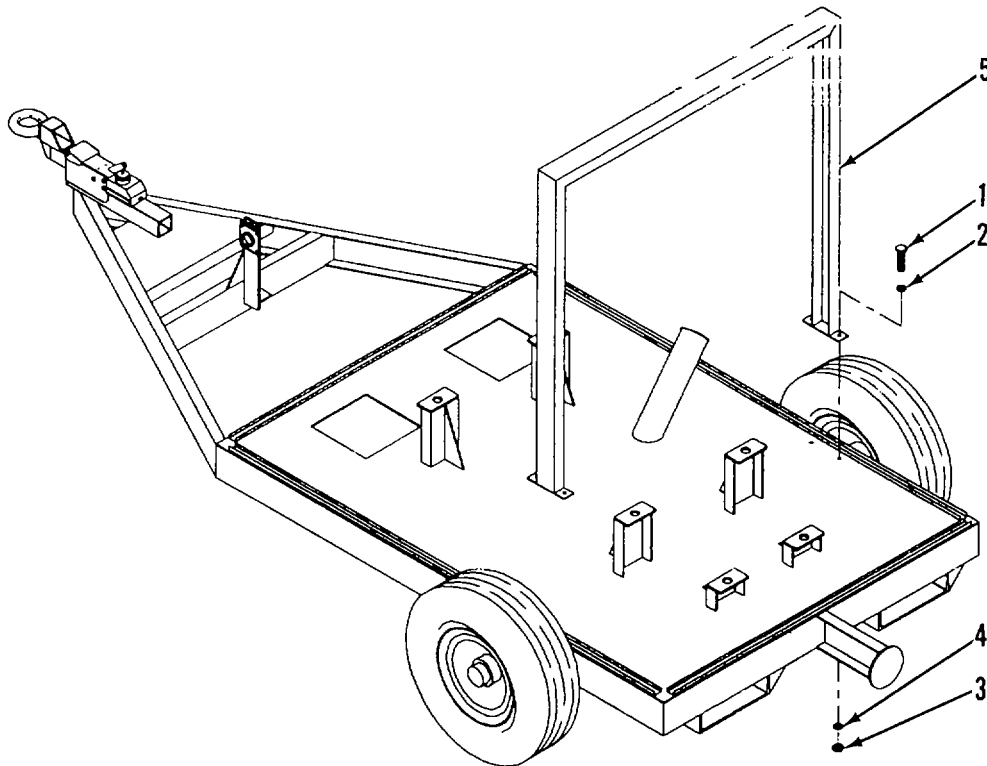

Figure 3-10. Interior Brace
- a. **REMOVE.** (Figure 3-10)
- (1) Remove bolts (1), flat washers (2), nuts (3), and lockwashers (4) that secure interior brace (5) on each side of trailer chassis.
- (2) Remove interior brace (5).